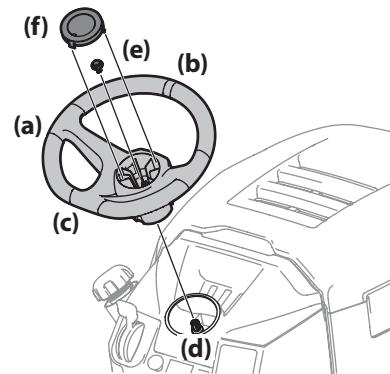

Figure 2-9
- With the wheels of the tractor pointing straight forward, align the steering wheel (a) by using the center-line (b) on the front of the steering wheel (a) pointing straight ahead and the flat section (c) of the steering wheel (a) facing toward the seat, place the steering wheel (a) over the steering shaft (d). See Figure 2-9.